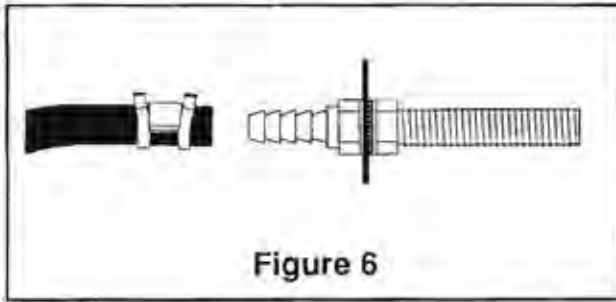

Figure 6
- M. Slide a hose clamp over hose. Push tubing onto fitting covering all barbs. With pliers slide the hose clamp forward until it fully covers the barbed section (Figure 6).